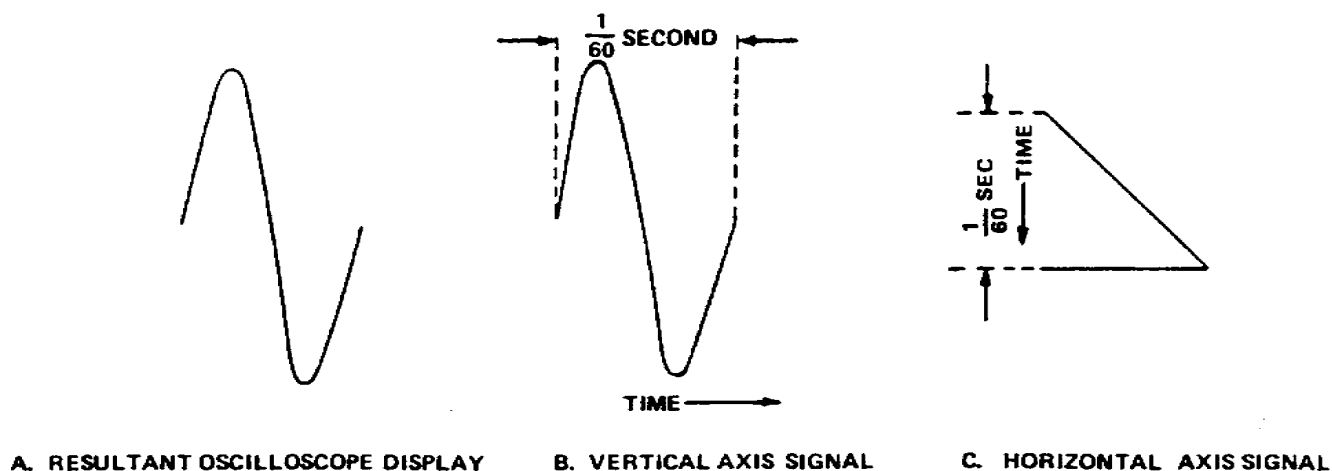

Figure 2-6. Sweep frequency equals test signal frequency
6. You can easily determine the frequency of the time base generator by injecting a known frequency into the vertical amplifier and manipulating the coarse and fine frequency controls for a stationary pattern of one cycle. If the injected signal is a 60-Hz sinewave, one sinewave lasting  $1/60$  of a second is displayed by one sawtooth lasting for  $1/60$  of a second. Therefore, the frequency of the time base generator is also 60 Hz and is a 1-to-1 frequency ratio, as shown in Figure 2-6.